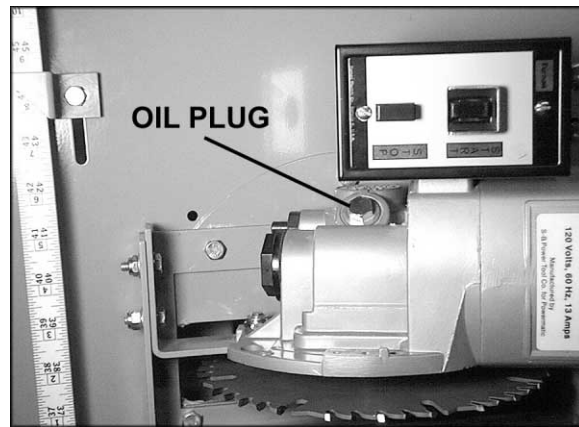

Figure 22
2. Rotate the motor to horizontal position and check the motor oil level at the plug. Figure 22 shows the location of the oil plug. If low, fill with SAE 70 or 80 gear oil to proper level. The gear oil should be changed at least once a year, or more frequently if the panel saw receives heavy use.